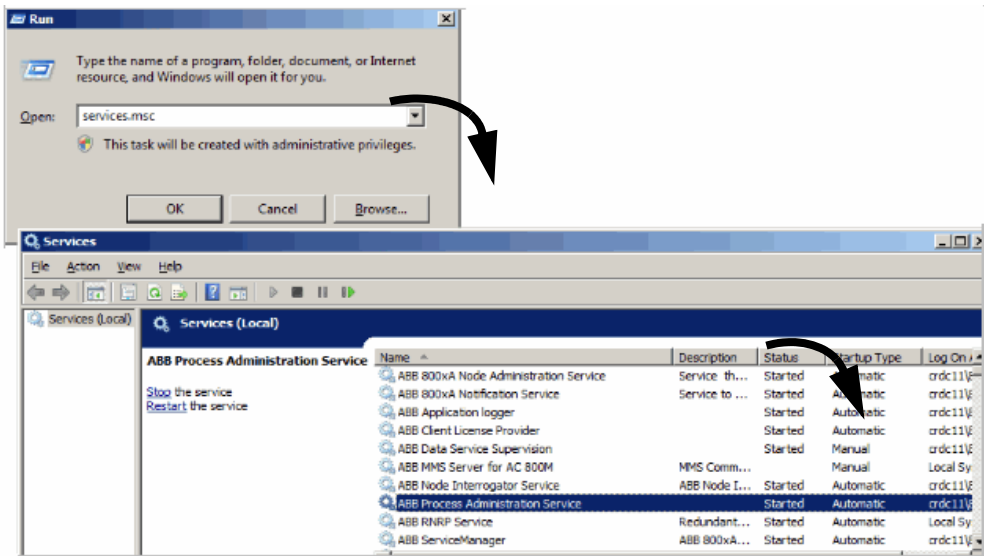

Figure 421. Accessing the Windows Services Utility
1. Launch the Services utility as shown in Figure 421.